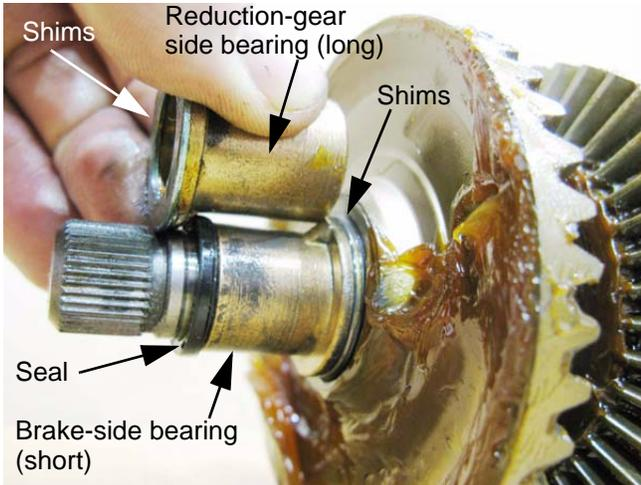

Figure 6.105
- 19e. Install new bevel gear shaft bearings, with their flanges facing the shims. See Figure 6.105.